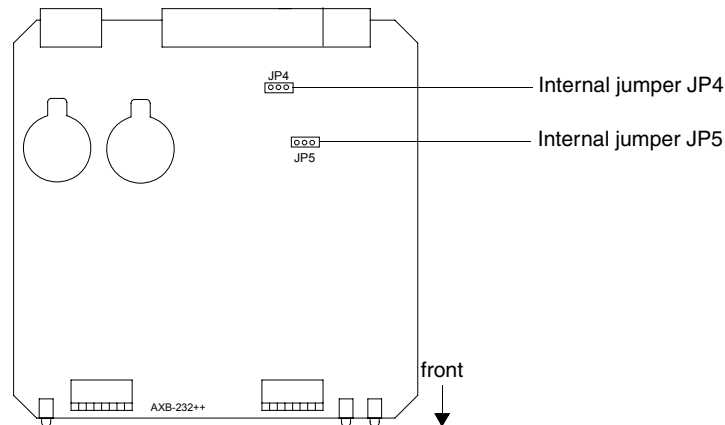

FIG. 3 Location of internal jumpers
4. Locate the JP4 jumper (FIG. 3).
4. Locate the JP5 jumper (see FIG. 3 on page 3).